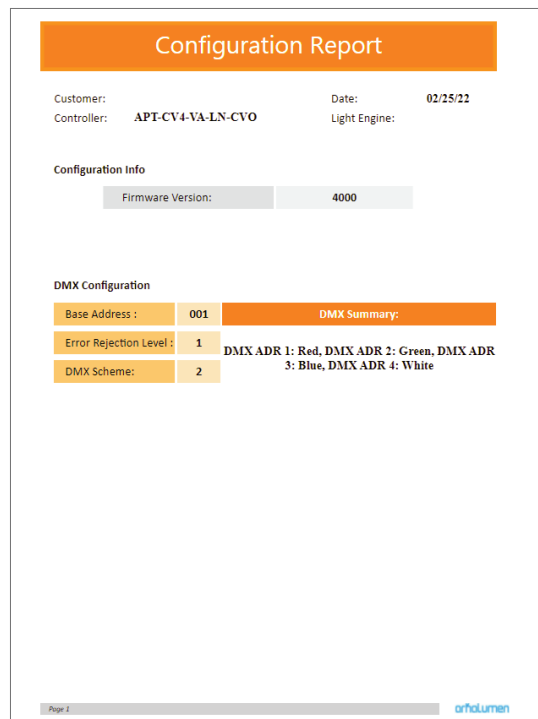

Figure 17: Example of the first page of a generated report
- 5 Click **Generate Report**, the default web browser will open and display a preview of the print (shown in Figure 17).